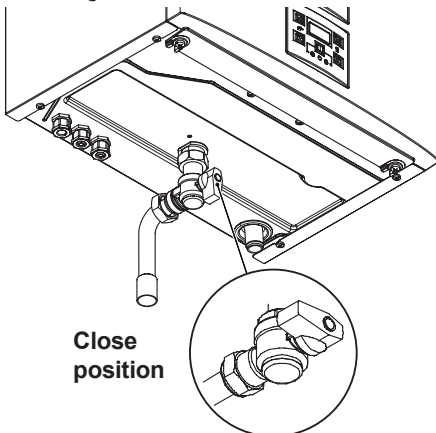

Fig. 2.13
- Shut off the gas supply cock fitted under the boiler and the valves for the water circuits Fig. 2.13;